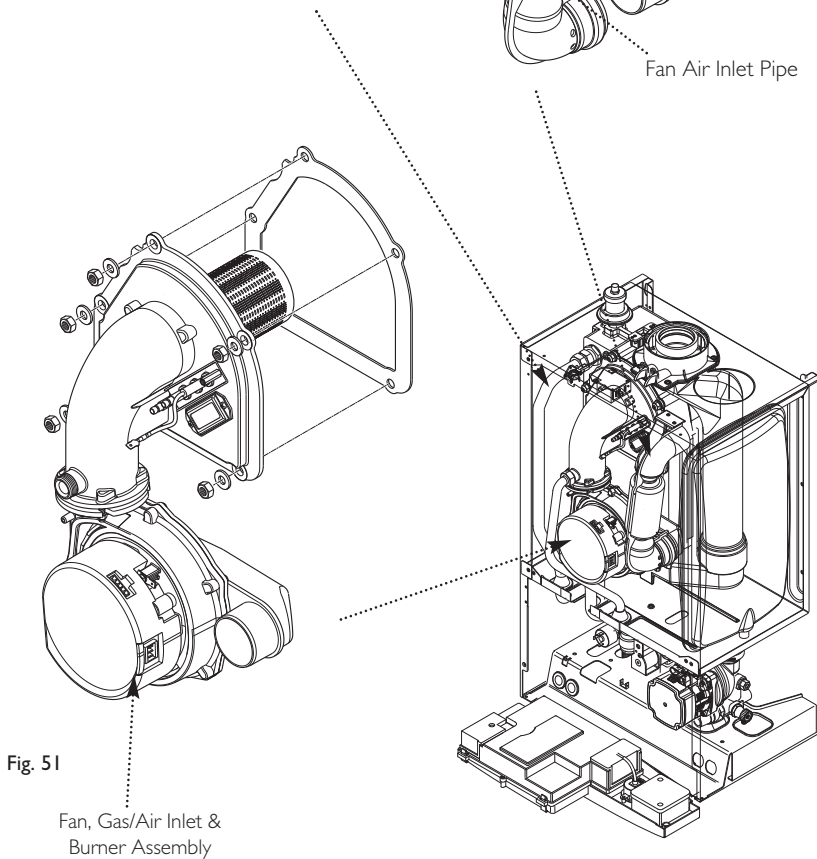

Fig. 51
9. Undo the five retaining nuts and washers and remove the fan, gas/air inlet and burner assembly (Figs. 51).